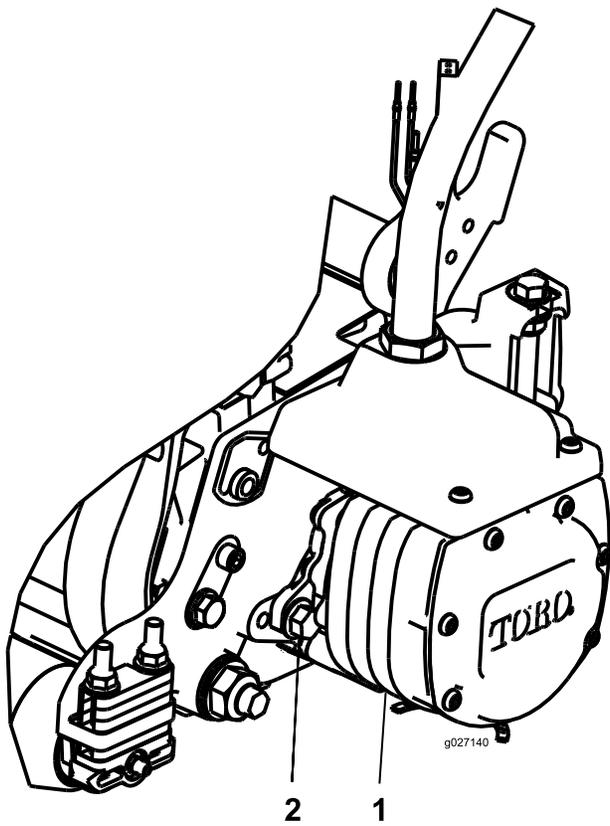

Figure 22
3. Align the motor to the cutting unit so that the motor flanges clear the bolts clockwise (Figure 22).